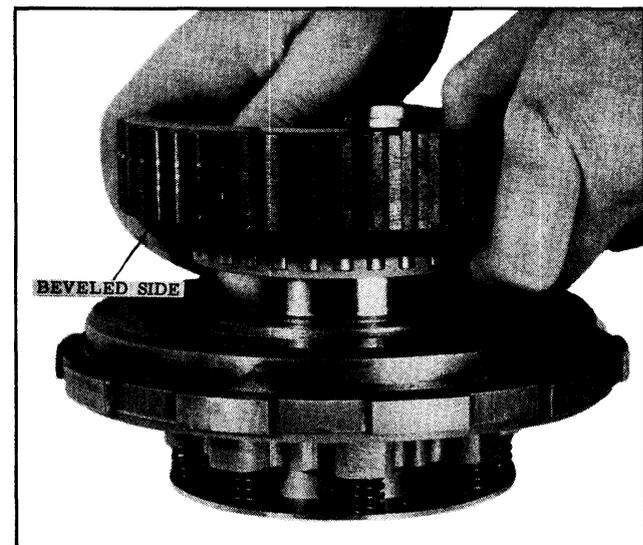

Fig. 3-79 Installing Sprag Assembly
23. Install sprag assembly on clutch cylinder with the beveled side of outer race toward the hub by turning sprag counterclockwise. (See Fig. 3-79)